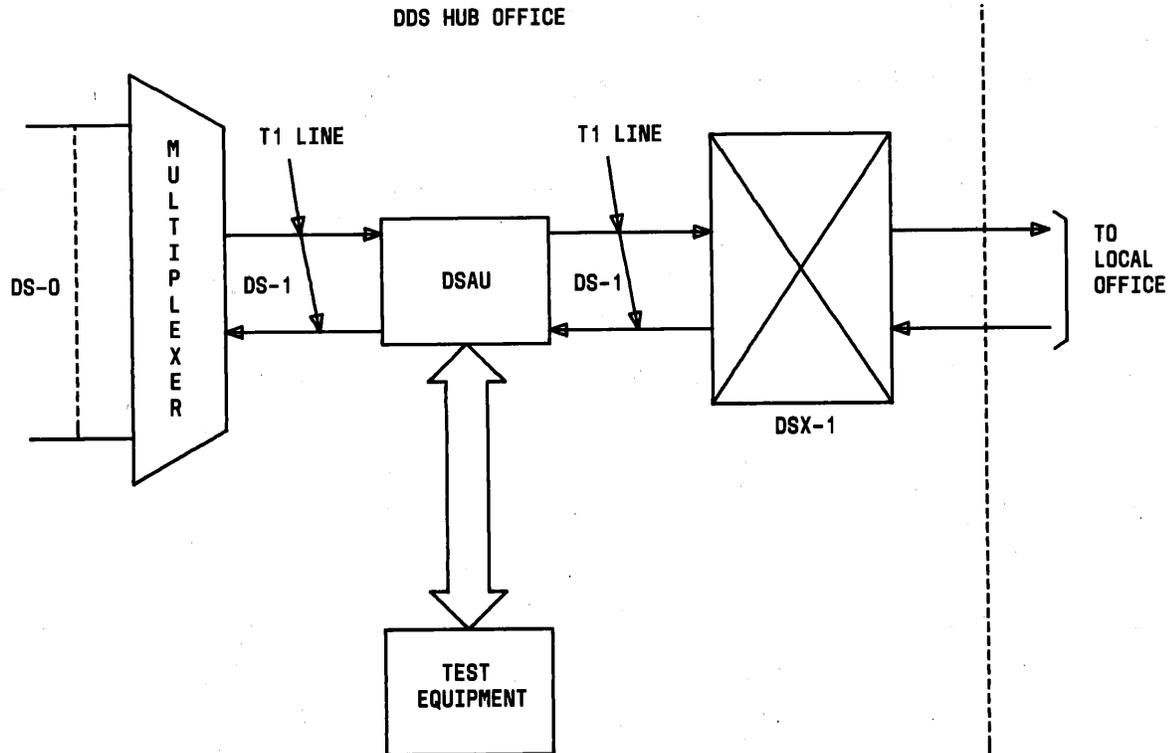

Fig. 1—Location of DSAU in DS-1 Channel
1.04 The DSAU is located between the second stage multiplexer (T1DM or T1WB4) and the DS-1 cross-connect (DSX-1) in series with the DS-1 line (Fig. 1). Even though the DSAU is in series with the T1 line, it is transparent to all channels in the DS-1 signal. It provides regeneration of bipolar violations and equalization of the transmitted signal and is capable of extracting timing information.